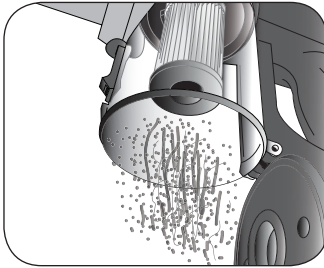

Fig. 5
Take the motor body on a trash bin. Push the unlocking lever of the dust container lid (N). Empty all the dust (Fig. 5).